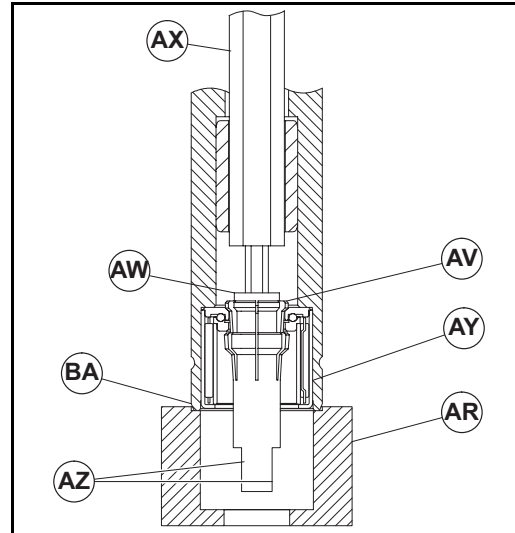

Figure 22
- While holding hex key wrench extension tool (Figure 22, item AX), rotate bearing removal tool using flats (AZ) to tighten bearing removal tool's tapered screw (AW) until flair (AV) of tool is completely spread open inside bearing (AY).
- Support pulley end (BA) with bearing anvil/sleeve removal tool (Figure 19, item AR) and (Figure 22, item AR), part number §25-09. Using an arbor press, push bearing (AY) out of the pulley into bearing anvil/sleeve removal tool (AR).
1. Support pulley (AP) in an upright position with “V” blocks or other means. Support bottom end of pulley using bearing anvil/sleeve removal tool (Figure 22, item AR).